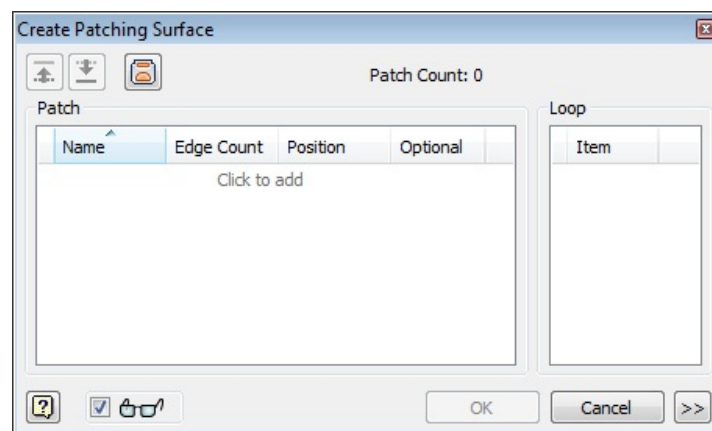

Figure 19-74 The Create Patching Surface dialog box
1. Choose the **Create Patching Surface** tool from the **Parting Design** panel in the **Core/Cavity** contextual tab of the **Ribbon**; the **Create Patching Surface** dialog box is displayed, as shown in Figure 19-74.